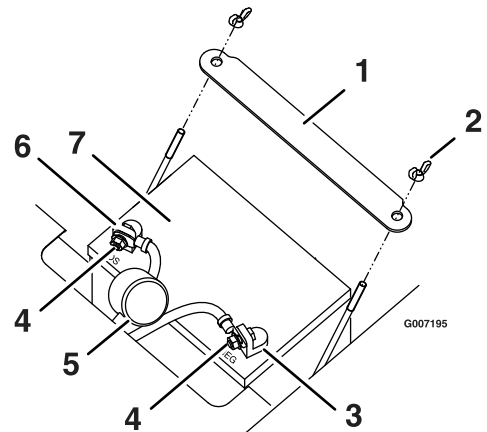

Figure 38
4. Disconnect the negative (black) ground cable from the battery post (Figure 38). Retain all fasteners.
- Remove the battery hold-down (Figure 38) and lift the battery from the battery tray.
- Position the battery in the tray with the terminal posts toward the operating position (Figure 38).
- Secure the battery with the hold-down (Figure 38).